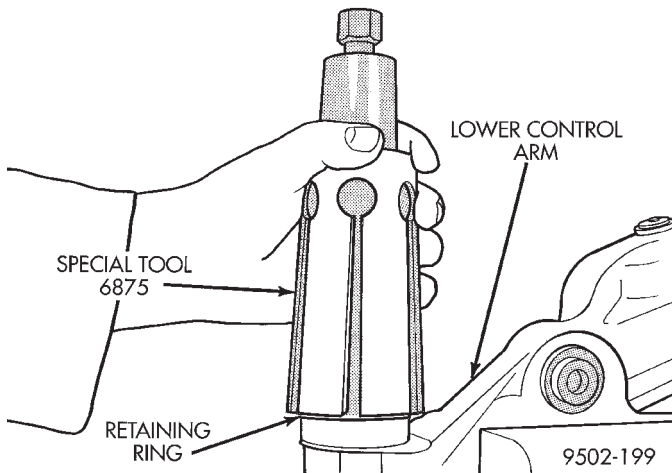

Fig. 110 Installing Seal Boot Retaining Ring
(6) Using the expandable collar of Installer, Special Tool, 6875 (Fig. 110) push the seal boot retaining ring down the cone of Installer, Special Tool, 6875.